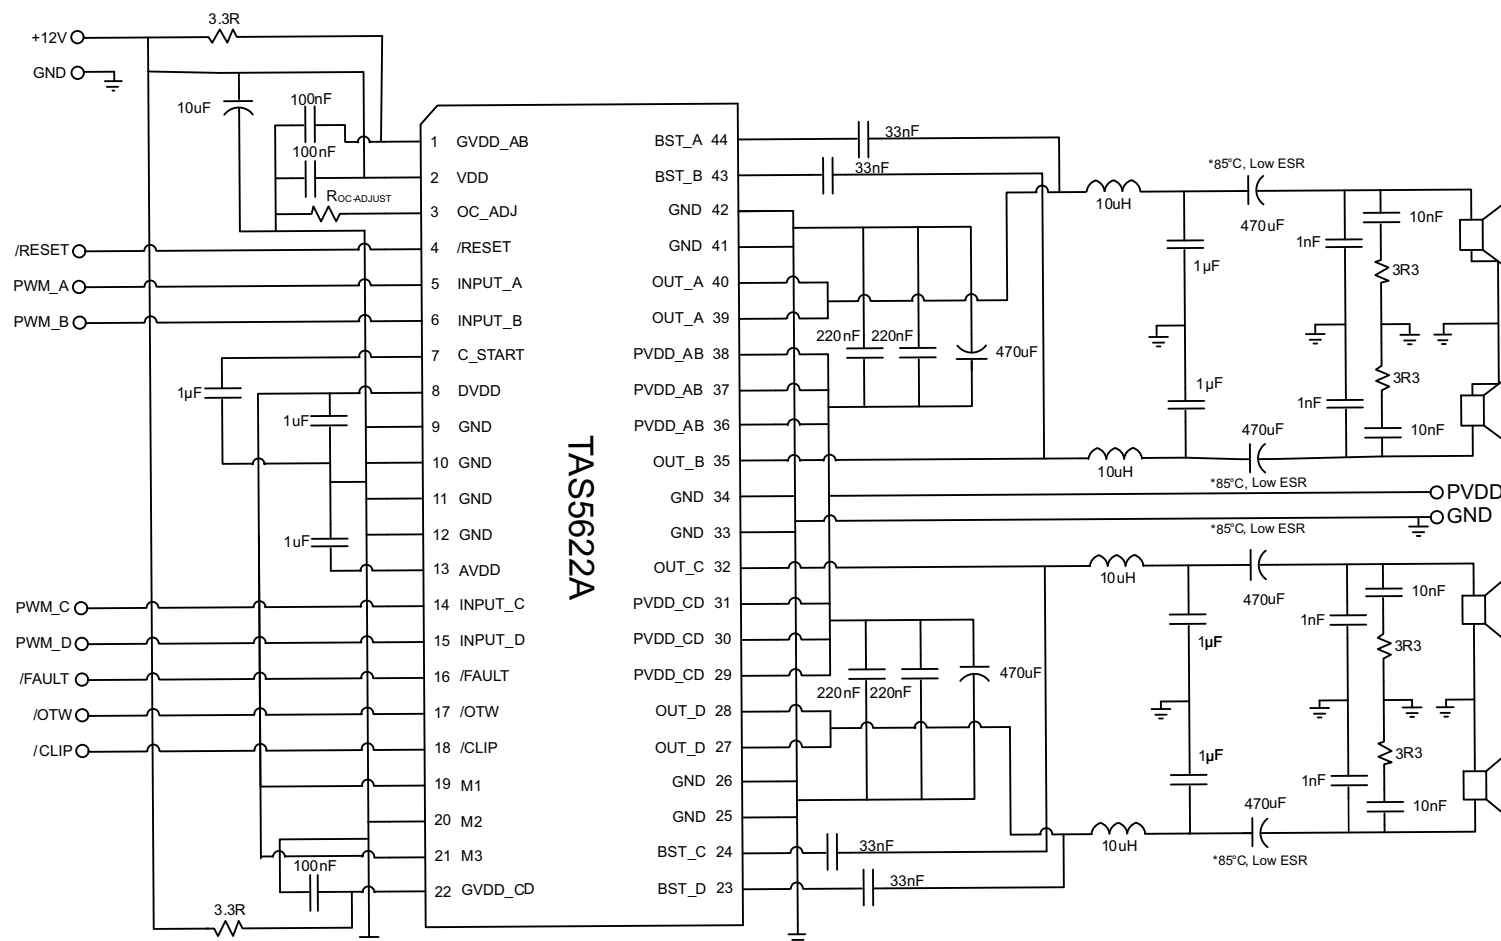

图 19. Typical (1N) SE Application
See 图 19 for application schematic. In this application, four single-ended PWM inputs are used with AD modulation from the PWM modulator such as the TAS5558. AD modulation scheme is defined as PWM(+) is opposite polarity from PWM(-). The single-ended (SE) output configuration is often used to drive 4 independent channels in one TAS5622A device.
- Pins 27, 28, 32, 35, 39, 40 - Output pins from half-bridges A, B, C, and D. Connect appropriate bootstrap capacitors and differential LC filter as shown in 图 19.
- Pins 29, 30, 31, 36, 37, 38 - Power supply pins to half-bridges A, B, C, and D. A and B form a full-bridge and C and D form another full-bridge. A 470-μF bulk capacitor is recommended for each full-bridge power pins. Two 0.22-μF decoupling capacitors are placed on each full-bridge power pins. See 图 19 for details.